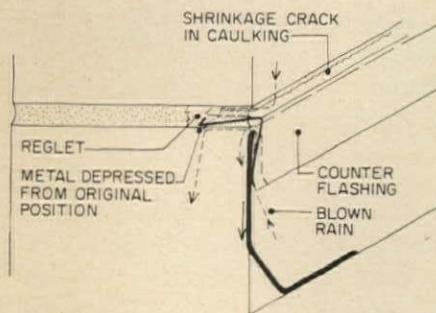

Figure 2
3. Metal counterflashings inserted into reglets provided or raked into masonry mortar joints are very common sources of leakage because of the nature of their installation (Figure 2). After their insertion, they are frequently wedged down to solid bearing with the inner edge of the metal sloping down from the face creating a continuous in-turned funnel along the wall. This is then sealed with caulking compound which far too often does not fill the space solidly. Even a mortar seal shrinks eventually. In either case, dry-out shrinkage gradually creates a fine crack which increases in size, eventually opening the wall-joint to rain running down the face, thence into the building. Instead of always exposing itself nearby, the water sometimes follows a concealed path for many feet. Other than to the trained eye, these leaks are generally hard to detect.
4. During heavy rains, water sometimes blows across a ponded deck, up behind counter-flashing that has been bent. Such blown rain can go over the top of a roofing turnout that has pulled away from its mopped adhesion to the wall (Figure 2). This pulling away can be caused by shrinkage during a cold night when temperatures drop below 40 F, the point at which most bitumen becomes